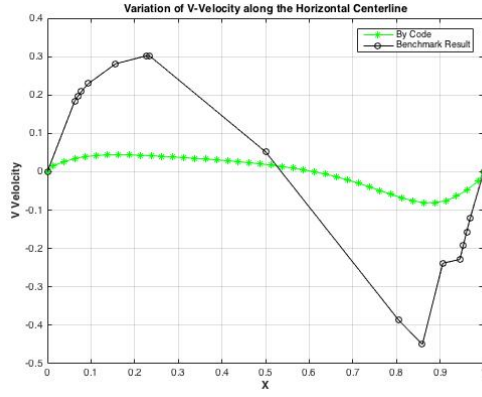

Figure 5: V velocity along the horizontal centerline at Re=400
2. Similarly for the V velocity contour we have V going to zero at both its boundaries (figure 5,7) and shows an almost sinusoidal function where it varies between negative to positive values. Thus, here two a rotational or a closed flow is created